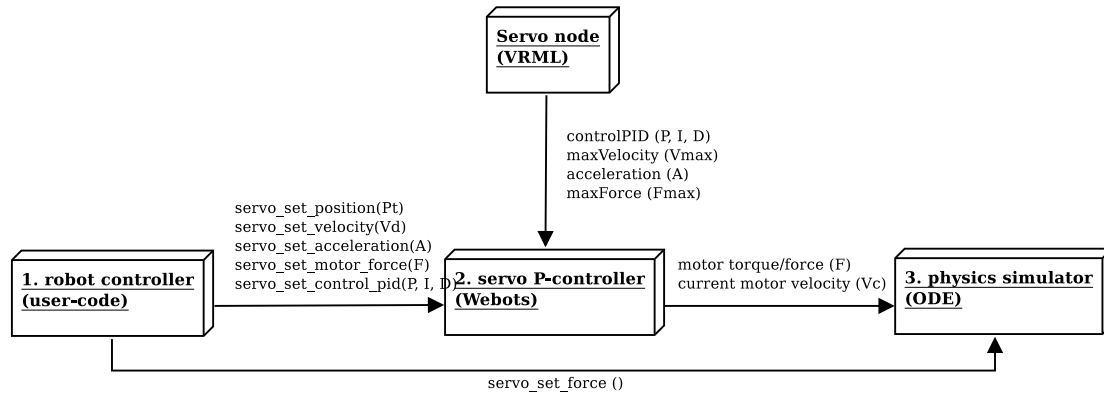

Figure 3.39: Servo control
In Webots, position control is carried out in three stages, as depicted in figure 3.39. The first stage is performed by the user-specified controller (1) that decides which position, velocity, acceleration and motor force must be used. The second stage is performed by the servo P-controller (2) that computes the current velocity of the servo V_c . Finally, the third stage (3) is carried out by the physics simulator (ODE joint motors).